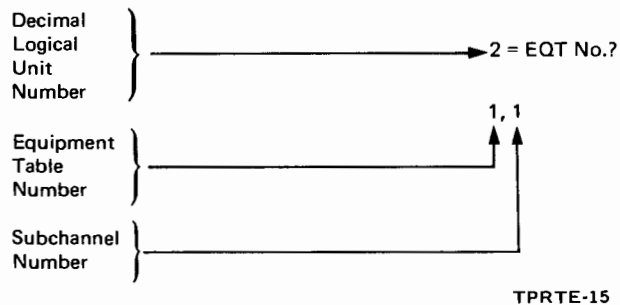

Figure 6-6. DRT Table Example
STEP 25 — The Device Reference Table, which contains the logical unit (LU) numbers, is cross referenced to the EQT entries here. Refer to the I/O Worksheet (Table 6-3) to obtain the EQT entry number, LU number, and subchannel number. Fill in the blanks as shown in Figure 6-6. LU0 (bit bucket) is a system mechanism that allows immediate I/O completion (i.e. data buffer is written to or read from a non-existent device) The first seven LU numbers are reserved for system devices as follows: